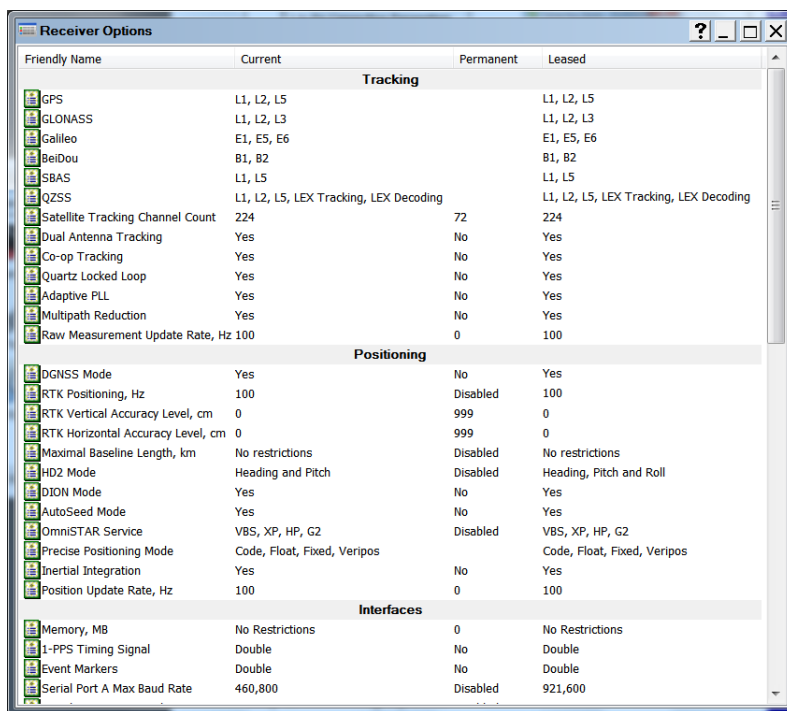

Figure 20: Receiver Options
3. Click the **Options**  icon in the main window. The **Receiver Options** window (Figure 20) displays, so you can view the current authorization options and upload new ones.